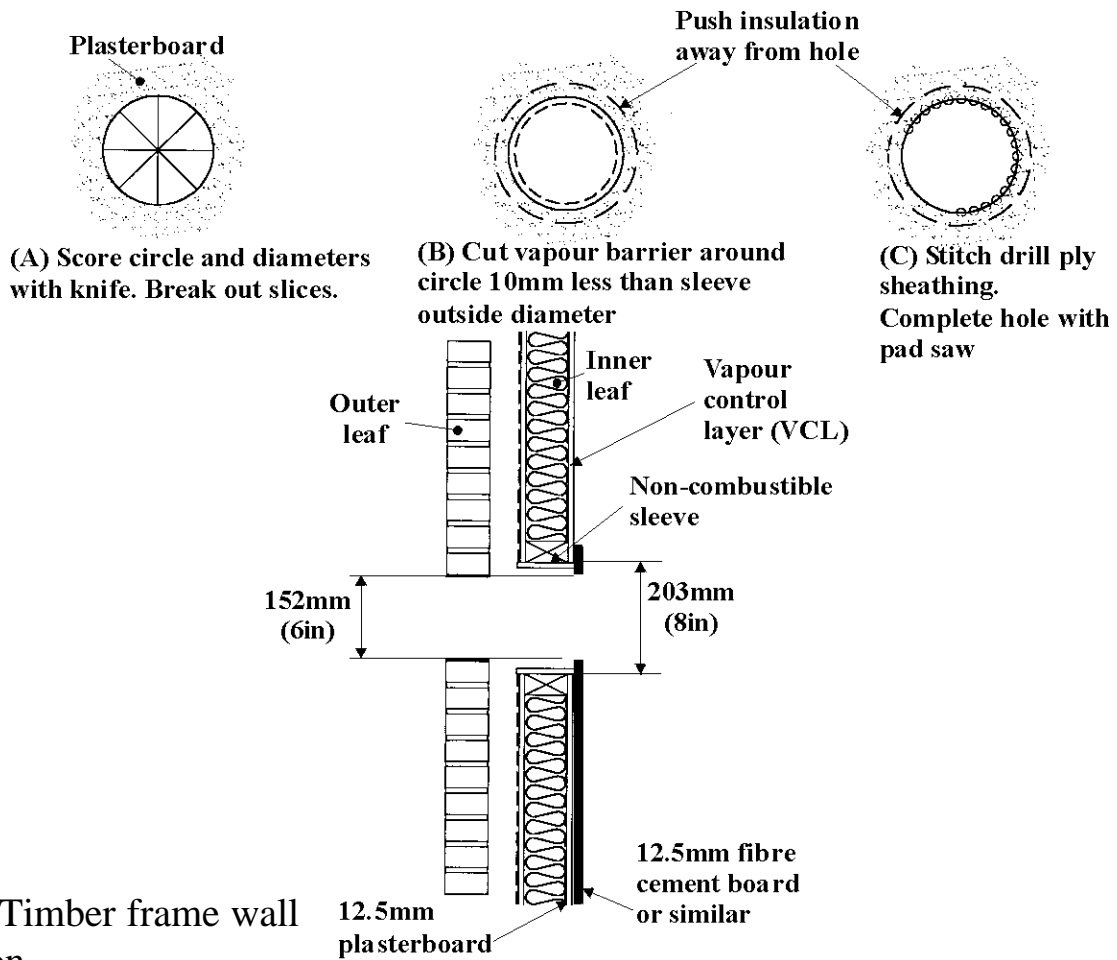

Figure 9. Timber frame wall preparation
- Since the flue will pass through combustible material in the inner leaf of the wall, a non-combustible sleeve 203mm (8in.) diameter will be required round the flue (See figure 9).
- Cut a hole through the inner leaf to accommodate a non-combustible sleeve 203mm (8in.) outside diameter. To minimise the effect of breaking through the vapour control layer (VCL), if possible, cut the hole approximately 10mm undersize so that the sleeve will be forced through the layer. A recommended technique for cutting the inner leaf is shown in figure 9.